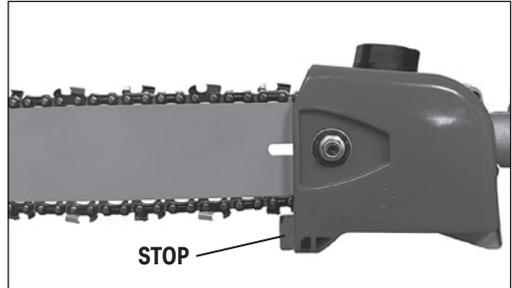

Fig.34
11.5 Basic Operation of the Pruner attachment (Fig.34)